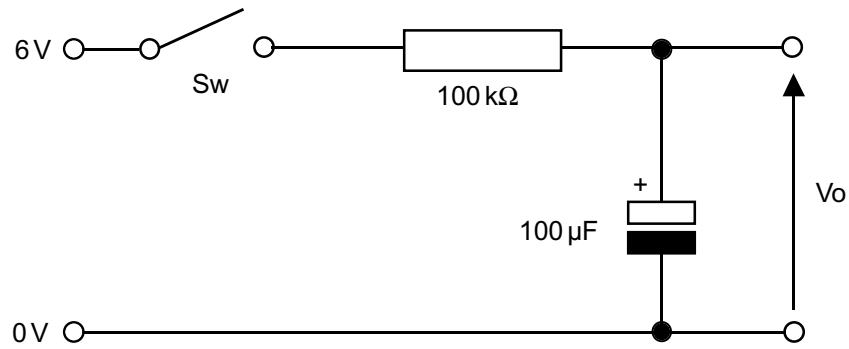

Fig. 10(a)
10 (a) Part of a time delay circuit is shown in Fig. 10(a).
- (i) Calculate the time constant for the circuit shown in Fig. 10(a). [1]